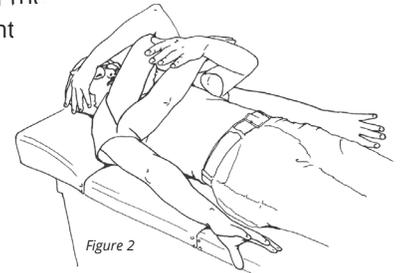

Figure 2
Step 3: Now, move both arms together through the biceps pattern. Imagine the movement of the amputated elbow and thumb (Figure 2). Repeat several times, concentrating on the movement.